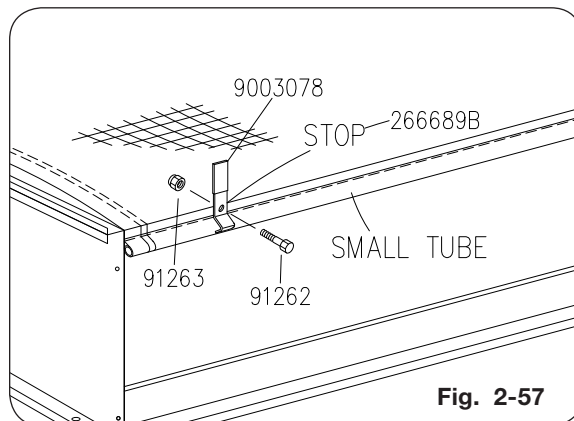

Fig. 2-57
12. Using an appropriate lifting device rated at a minimum of 250 lbs., position the tarp on top of the left side of the wagon. Hand roll the tarp into open position. Place the 1 1/8" stationary tube side of the tarp on top of the left side of the box, centered from front to back of box. BE CAREFUL NOT TO LET THE TARP ROLL OFF OF THE BOX. Assemble the tarp and stops (266689B) (with caps) to the left side boards by poking a hole through the tarp and using flange screws (91262) and flange nuts (91263). Assemble the center stops through each bow weldment, the front and rear stops should be approximately 1 foot in from the ends of the wagon. See Figure 2-57.